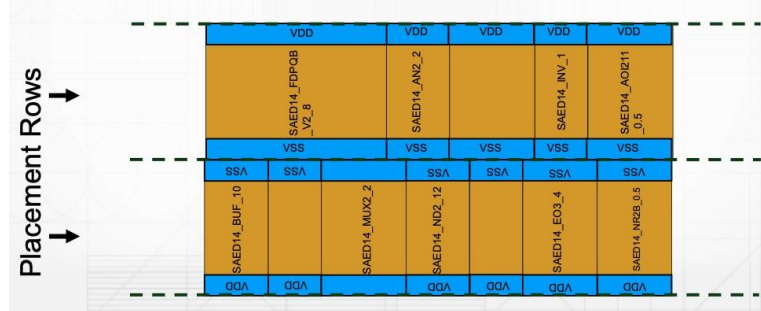

Figure 1. Structure of Placement Rows
- (1) As far as possible, use standard cells from gsclib045. Avoid building cells from the transistor level.
- (2) Design your implementation in a hierarchical manner. This will simplify the work involved and will allow you to easily split the workload between group members.
- (3) Use only Manhattan geometry for routing, i.e., use horizontal/vertical traces only, do not use diagonal traces.
- (4) Split the workload in a way that all members can work in parallel.
- (5) Keep your design simple and straightforward.
- (6) Use edge-to-edge power rails, size your cells to have consistent height, and lay the cells out in placement rows, as shown in figs. 1 and 2.